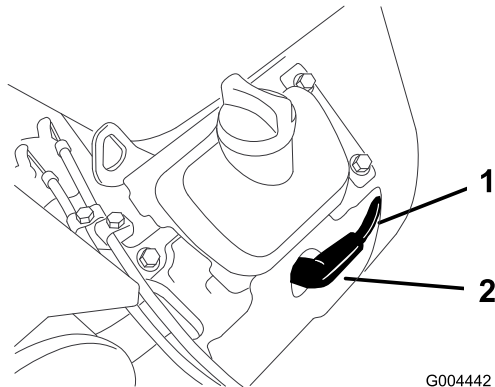

Figure 37
3. Pull the wire(s) off the spark plug(s) (Figure 37). Now clean around the spark plug(s) to prevent dirt from falling into the engine and potentially causing damage.
3. Push the wire(s) onto the spark plug(s) (Figure 37).